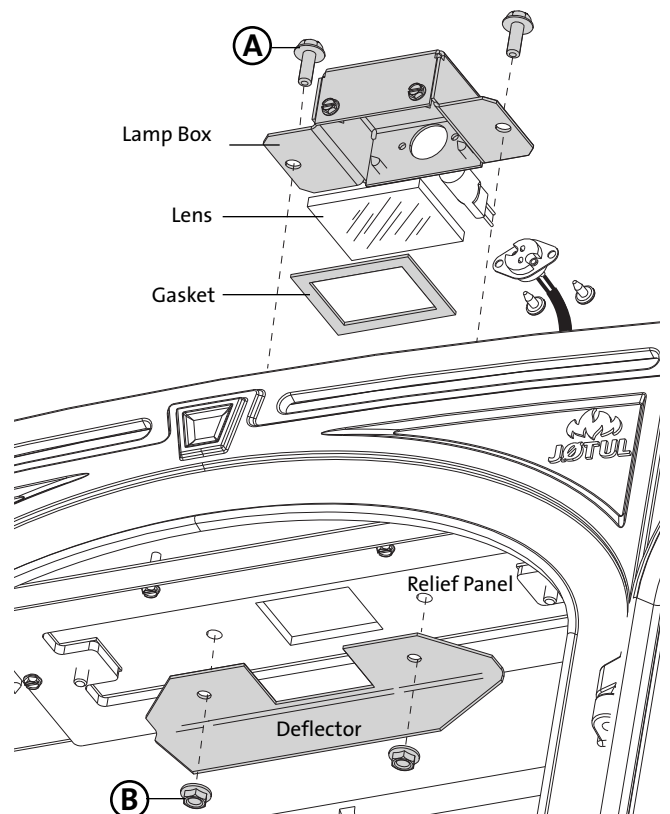

Figure 49. Accent Lamp installation.
2. Remove the two flanged hex head bolts (A), nuts (B) and cover plate from the Relief Panel using a 10 mm socket or wrench. See fig. 49.
3. Position the Gasket, Lens, and Lamp Box on the top of the Relief Panel using the two bolts (A) previously removed.
4. Inside the firebox, attach the Light Deflector plate to the bolts on the underside of the Relief Panel using the nuts (B) previously removed.